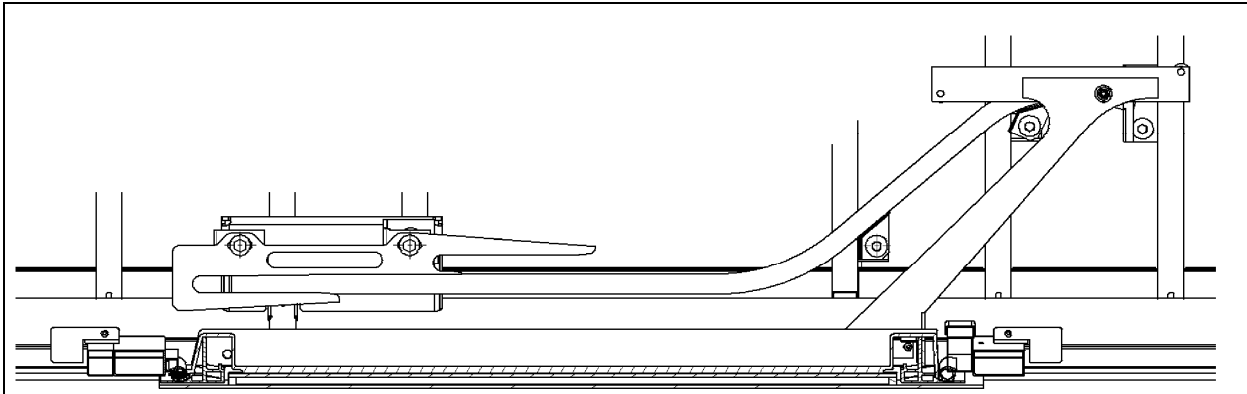

FIGURE 51: WCL UPPER ARM AND RAIL
2. Slide the top rail into the upper arm then bolt the rail to the structure. Do not fully tighten (Refer to Figure 51).